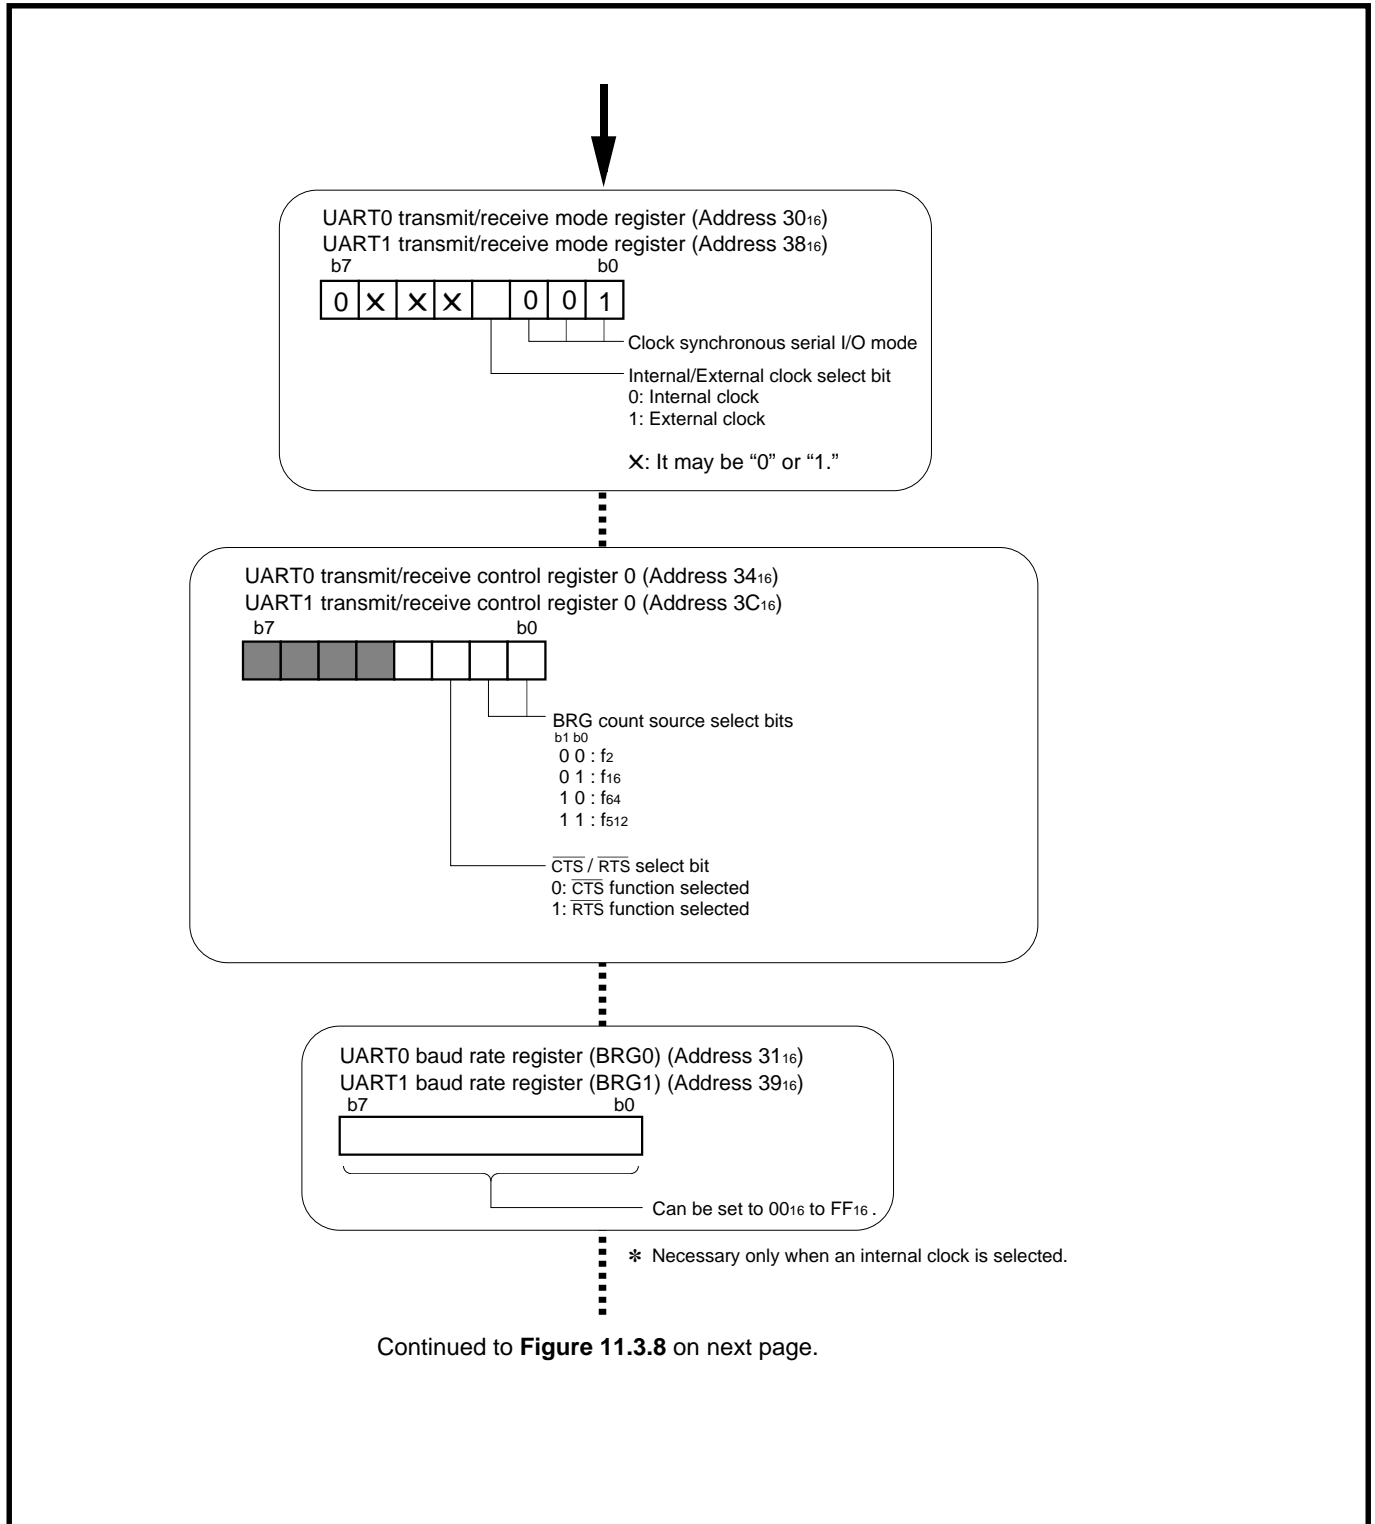

Fig. 11.3.7 Initial setting example for relevant registers when receiving (1)
Figures 11.3.7 and 11.3.8 show initial setting examples for relevant registers when receiving. Reception is started when all of the following conditions (① to ③) are satisfied. When an external clock is selected, satisfy conditions ① to ③ with the following precondition satisfied.